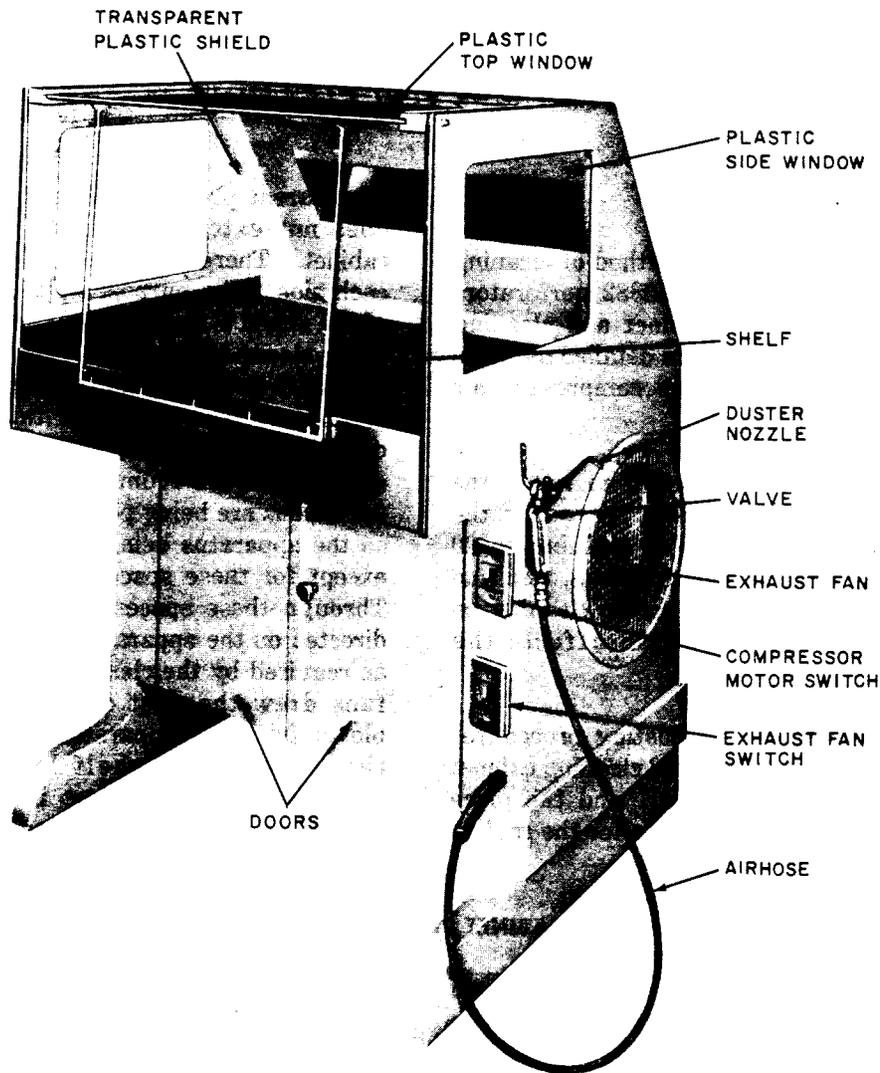

Fig. 1—Exterior of KS-13928 Cleaning Cabinet
2.01 The KS-13928 cleaning cabinet shown in Fig. 1 and 2 is divided into two parts by a shelf on which apparatus to be cleaned is placed.